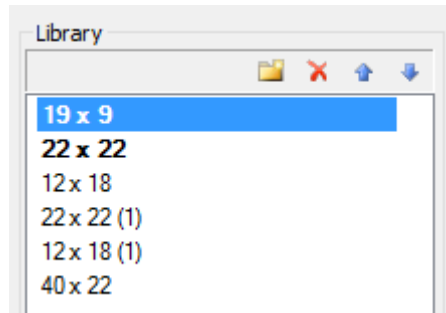

Figure 2-6 Enlarged Design Group Library with Duplicate Group Names
- **Auto Assign New Grouped:** This option will generate new Design Groups based on the sizes of the selected column/s, regardless of whether Design Groups of the same dimension already exists. If this operation is done and a new Design Group of the same size is created, the duplicate Design Group will be named with a (1) or (2), or with _001 and _002, etc, after the label, as shown in the Library of the Design Group Manager, enlarged in **FIGURE 2-6**.
- **Auto Assign New Individual:** This option will generate a new Design Group for each individual column selected, without regard to pre-existing Design Groups of the same size or name. Again, duplicates will be indicated with (1), (2), or _001, _002, and so on.